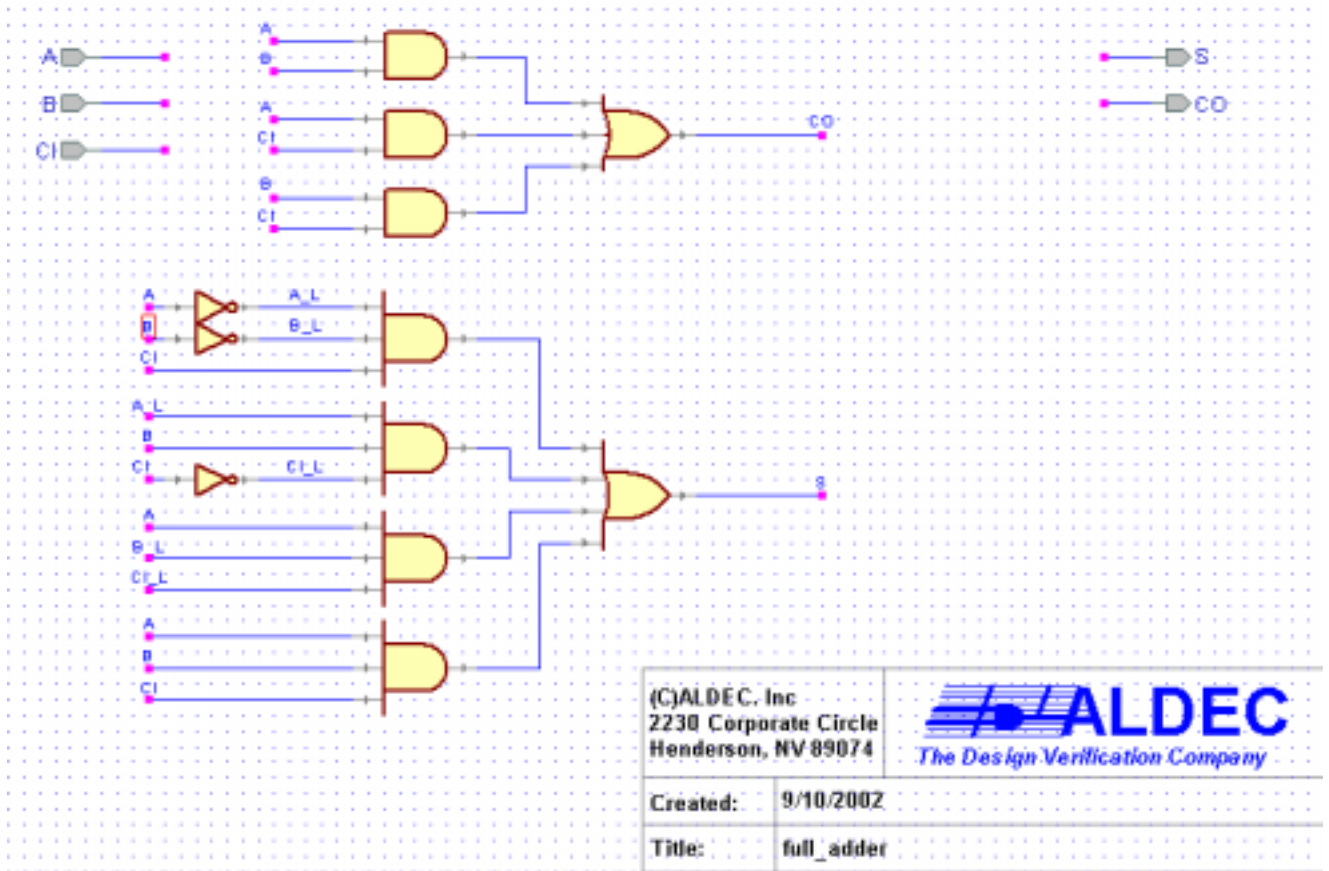
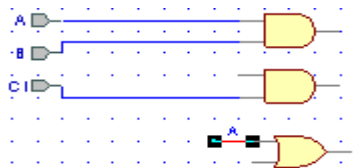

Figure 13
Figure 23
Figure 13 is the final version of the schematic you will be drawing. Your final design should look similar.
Connections to terminals can be made “by wire” or “by name”. By wire connections connect terminals by a wire. If a wire and a terminal have the same name, they are connected by name. Lots of wires can be confusing and named connections are used to make easy to read schematics. Figure 23 is an example of both methods. Also, the final schematic version of the full adder presented earlier (Figure 13) shows how to create an easy to read schematic using connections by name.
* Complete your schematic so it looks like **Figure 13**.